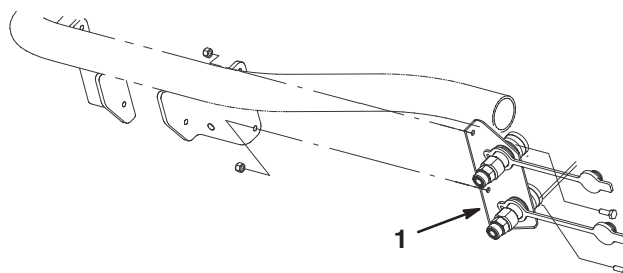

Figure 14
34. Mount the coupler bracket to the rear left frame bracket with (2) 1/4-20 x 3/4" bolts and lock nuts as shown in figure 14.